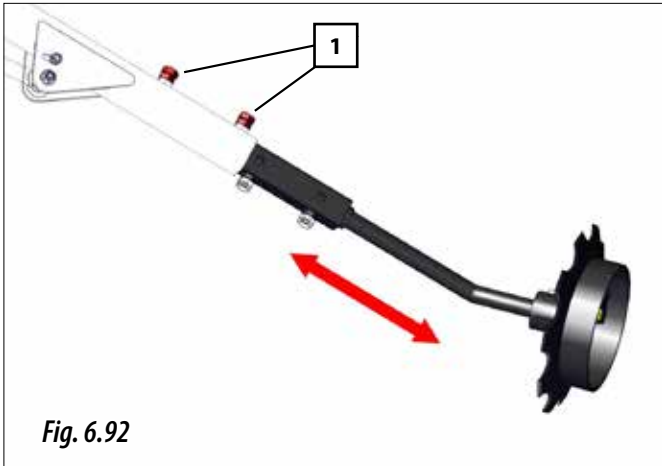

Fig. 6.92
- 1- Adjust the length of the first section of the track marker by loosening the 2 nuts and bolts (1, Fig. 6.92), then retighten the bolt and the locknut.